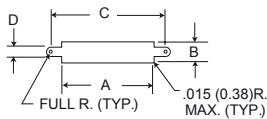
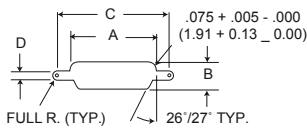

Figure 1
Figure 3 Rear Mounting
2. Front mounting is preferred. However, when rear mounting is necessary, use figure 3 for dimensions.
5. Front mounting (Figure 1) and rear mounting (Figure 3) accommodate #2-56 screws.